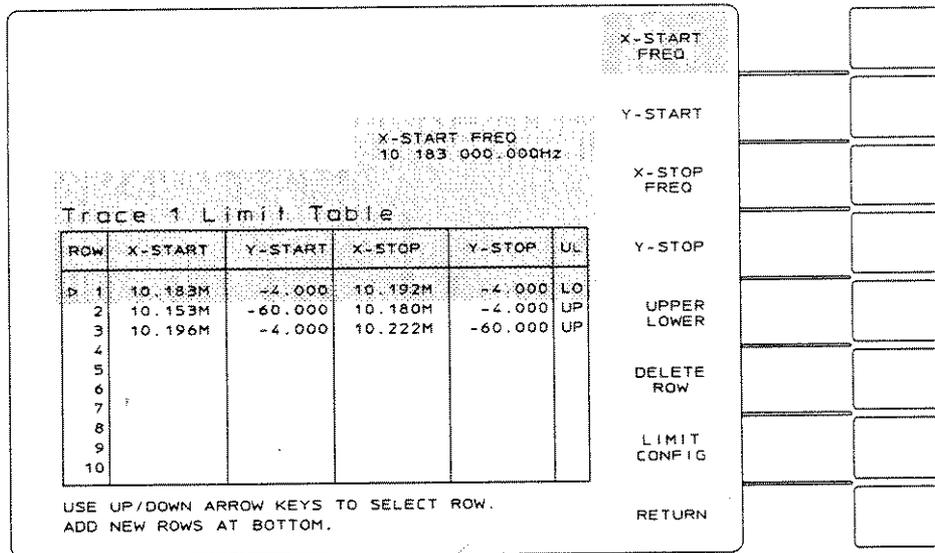

Figure 4-22 Segment Entries in a Limit Table
2. Press [Y-STOP], and enter the data from the numeric keypad. See figure 4-22.